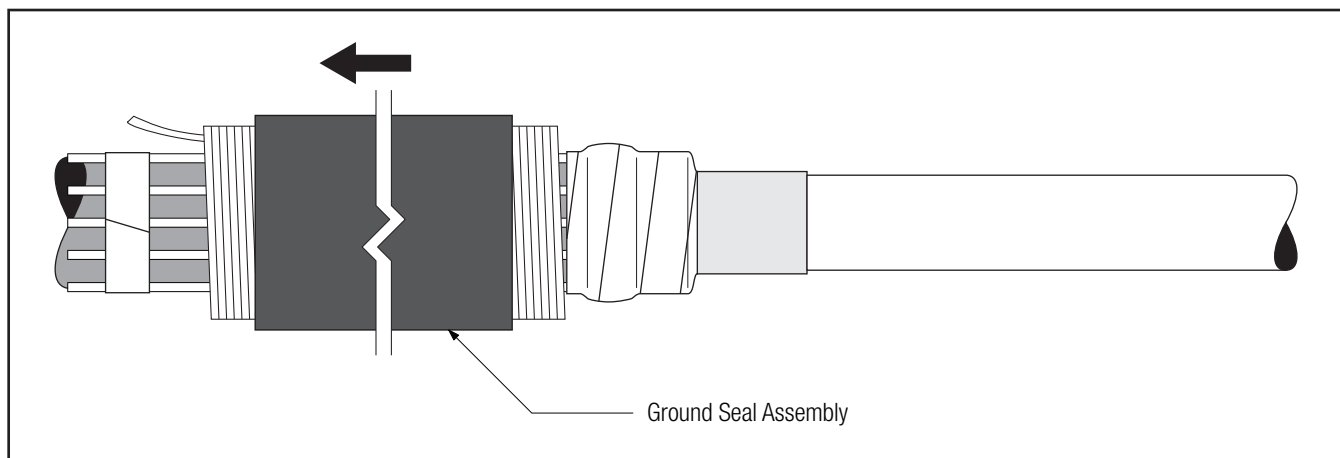

Figure 5
- 2.5 Slide the ground seal assembly onto the cable jacket, loose core end first. (Figure 5)